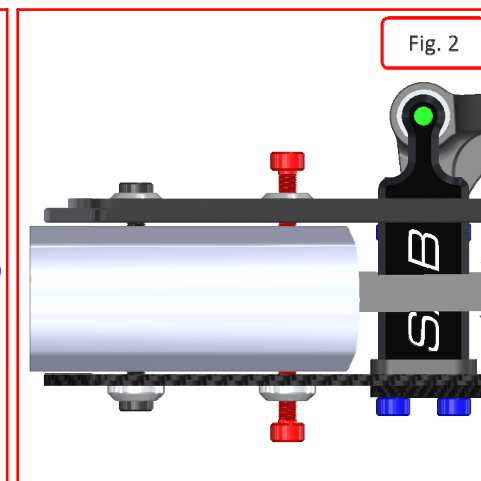

Fig. 2
\*Tension the tail case by hand and slowly tighten the 2 BLACK screws in (**Figure 2**).
**Figure 2**, Loosen the 2 **RED** screws and the **YELLOW** screw, then push the tail side as indicated by the red arrow. While pushing, tighten the **YELLOW** screw. Continue adjusting step by step until the tail belt is sufficiently tight. Note that a Hard 3D flying style will require more tension; once you achieve the desired tension, ensure all screws are tight and the tail shaft is perfectly aligned and straight.